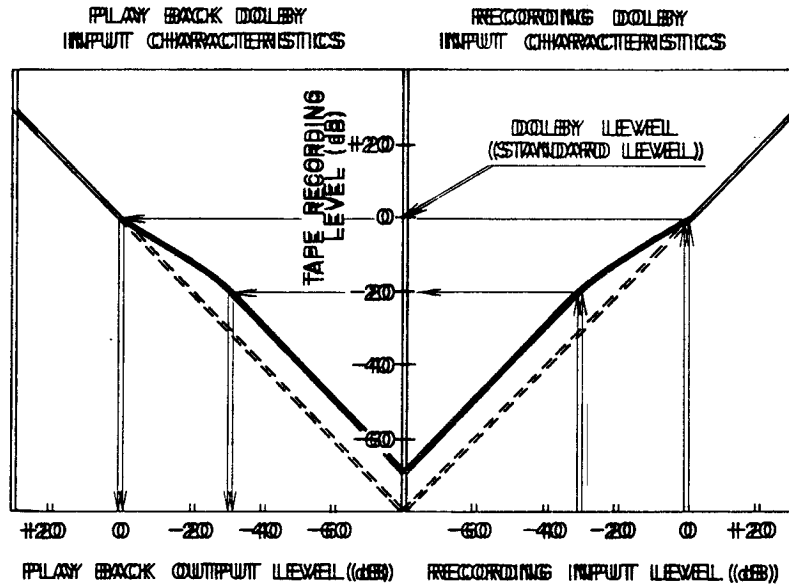

Fig. 31
- 6) At the Dolby recording circuit, output signal e_0 is recorded at a 10 dB higher level in relation to a 30 dB lower input level than the Dolby level (See Fig. 31) (Output signal e_0 , at over 400 Hz signal, becomes 10 dB higher than the input signal).
- 8) Because the output signal becomes $e_0 = e_1$, the relative ratio of the input and output signals become 1:1 (Fig. 31).
- 5) As shown in Fig. 31, with the Playback Dolby NR Circuit signals recorded above the Dolby level are played back at a 1:1 ratio, and signals recorded at a level of under -20 dB on the tape (Dolbyized recorded signals) are reduced by 10 dB and played back.